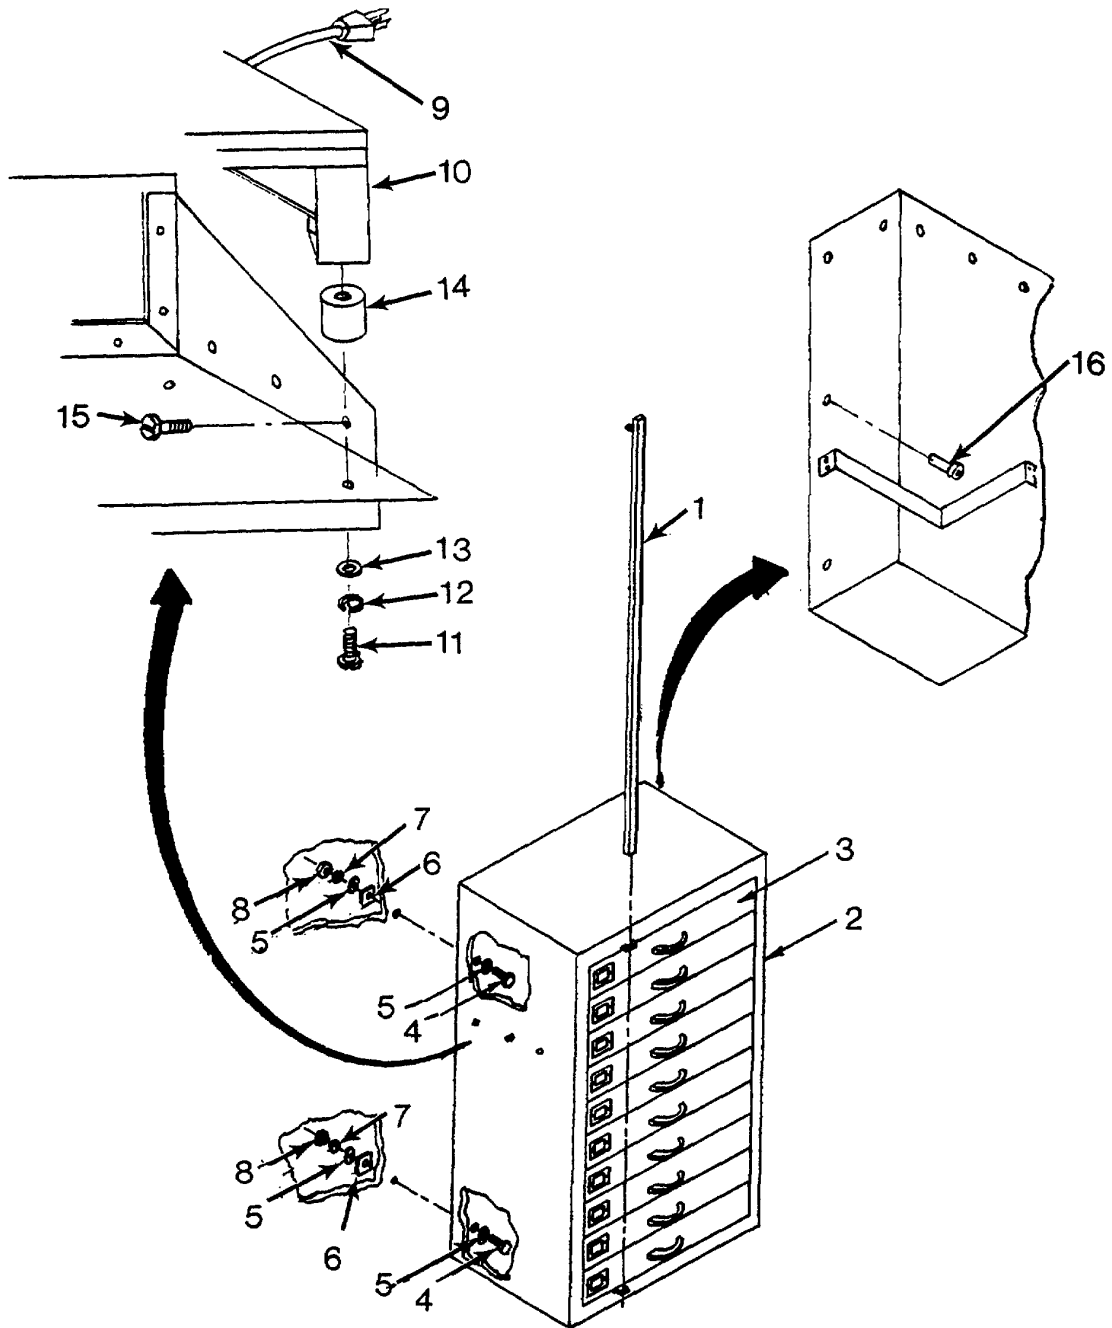

Figure 4-2. Historical File Cabinet
a. Inspect. (See Figure 4-2.)
- (1) Check historical file cabinet for security of mounting, dents, and structural damage. Inspect welds for breaks or separation.
- (2) Inspect file cabinet locking bar for bends and chipped paint.
a. Inspect. (See Figure 4-2.) - Continued
- (3) Inspect drawer handles for breaks and security of mounting.
- (4) Inspect label holders for security of installation and damage.
b. Replace. (See Figure 4-2.)
- (1) Remove file cabinet locking bar (1) from cabinet (2).
- (2) Remove drawers (3).
- (3) Remove bolts (4), flat washers (5), backing plates (6), lockwashers (7), and nuts (8).
- (4) Disconnect power cords (9) from light tables (10).
- (5) Remove light tables bolts (11), lockwashers (12), flat washers (13), and rubber legs (14).
- (6) Remove light tables (10) from both sides of cabinet (2).
- (7) Remove screws (15) from both sides of cabinet (2).
- (8) Remove rivets (16) by drilling or chiseling off heads.
- (9) Remove cabinet (2).
- (10) Install replacement cabinet (2).
- (4) Remove label holder (4).
- (5) Install drawer label holders (4) and secure with rivets (3).
- (6) Secure handles (2) to drawer with screws (1).
- (7) Repair file cabinet locking bar (1, Figure 4-2) by straightening and/or painting.
- (8) Remove cabinet (2) minor dents and bends.